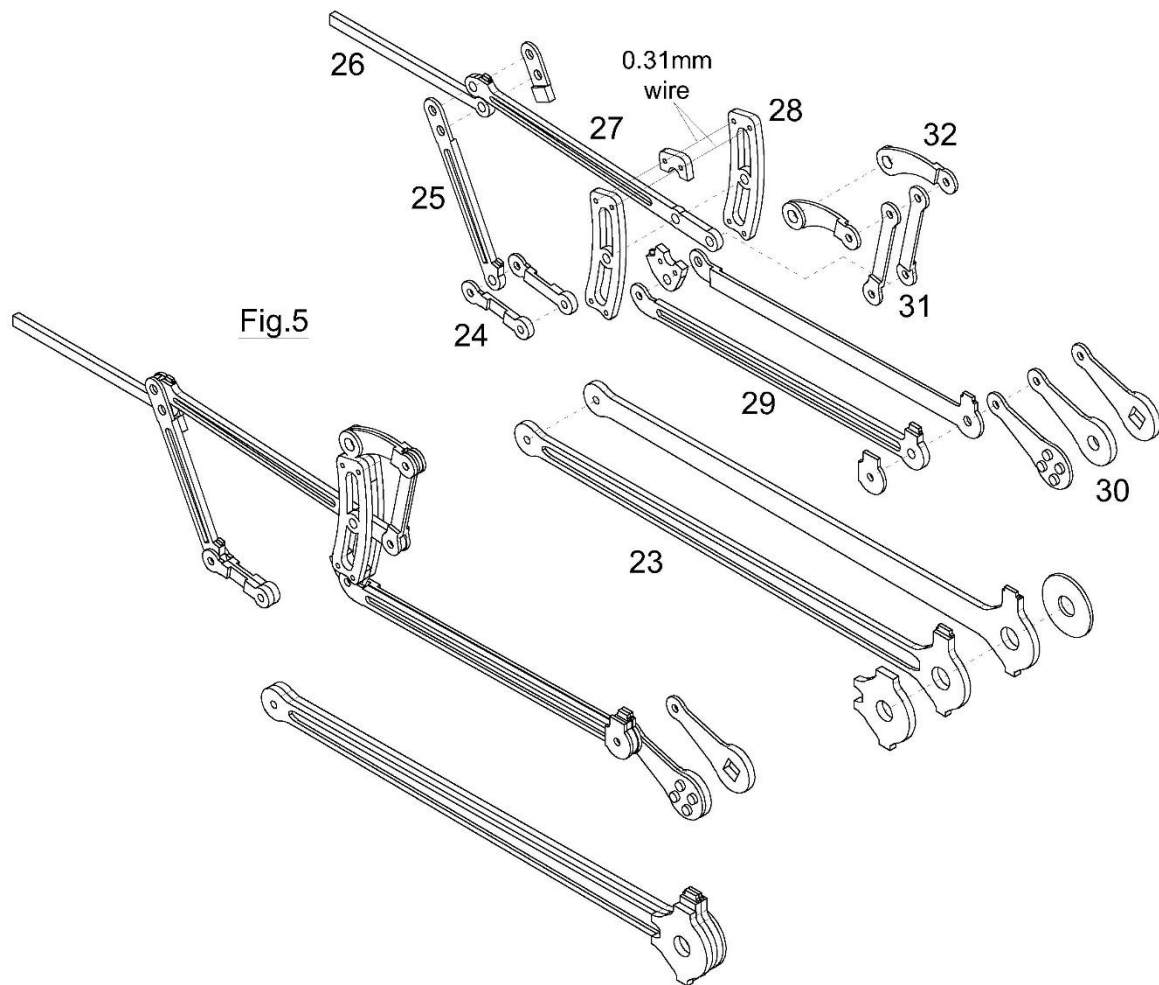

Fig.5
Firstly, make up the connecting rod (23). This is arranged as per the coupling rods with two layers and detail that fits on the front and back of the boss which fits on the crankpin. See Fig.5 below.